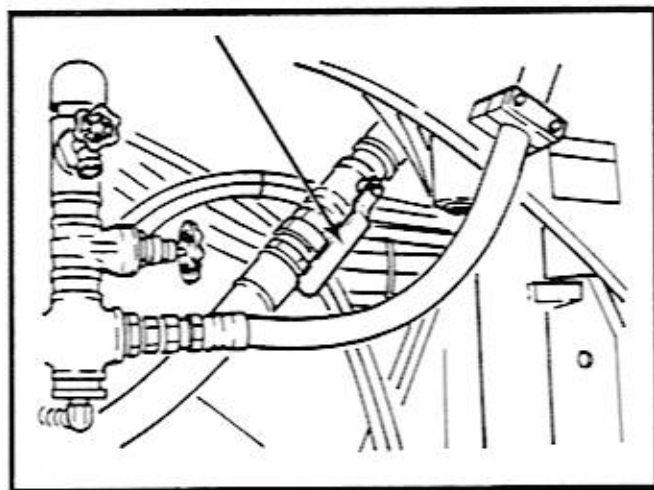

Figure 5-2. Water Supply Valve
6. If not already done, open the main water supply valve FULLY. It is located on the left side of the machine in front of the drum box. Refer to Figure 5-2. Do not run the water pump dry.